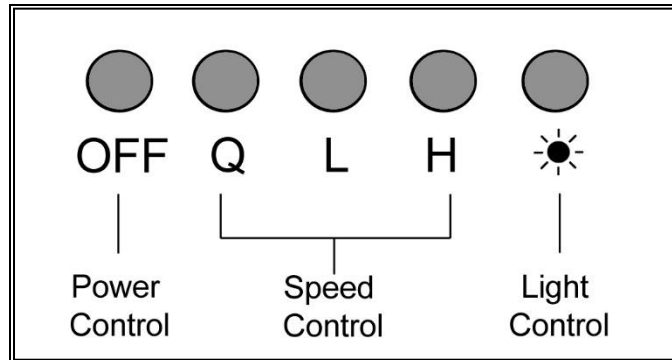

Figure 9
21. Slide the inner duct cover until it reaches to the duct cover-mounting bracket. Secure inner duct cover with two 4\*8 screws to the duct cover-mounting bracket. Refer for Figure 9.